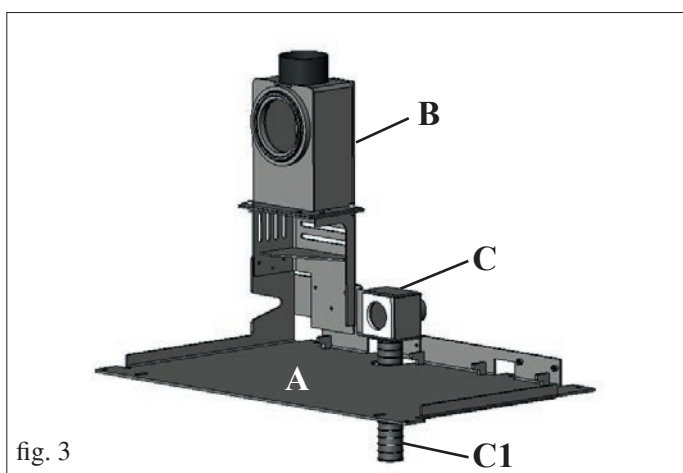

fig. 3
- Fit the flue (not supplied) on the smoke duct (B) and the  $\varnothing$  40 mm tube (C1 – not supplied) on the primary air duct (C). The  $\varnothing$  40 mm tube (C1 – not supplied) can be installed from below the base plate (A), see Fig. 3.